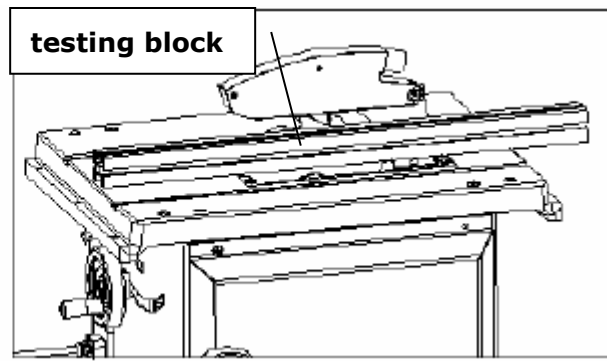

Fig. 7
- Check that the riving knife is parallel to the saw blade by means of the testing block. (Fig. 7)